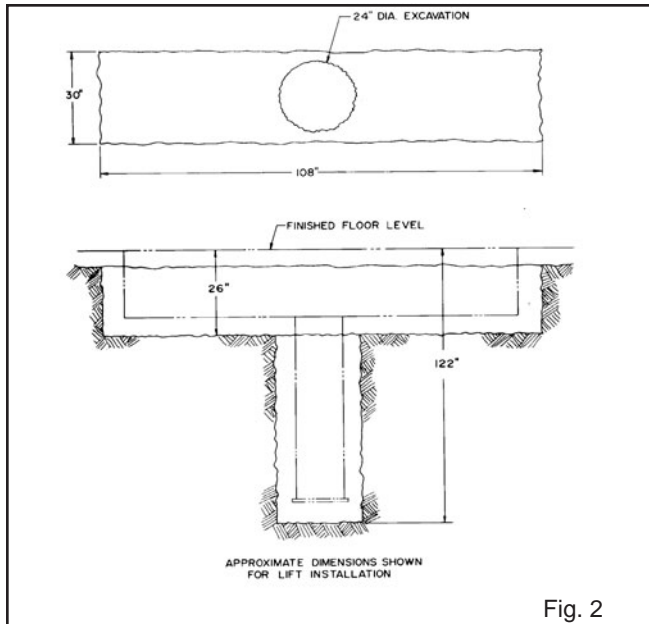

Fig. 2
2. Excavate hole for trench box assembly as shown in Fig. 2.